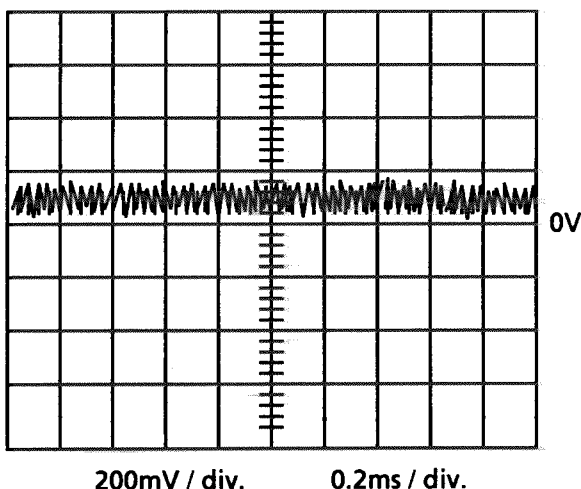

Figure 1
1. Connect an oscilloscope to TP 6(FE) and TP 3(GND).
3. Adjust VR603 (F.GAIN ADJ.) so that the waveform becomes below figure 1.